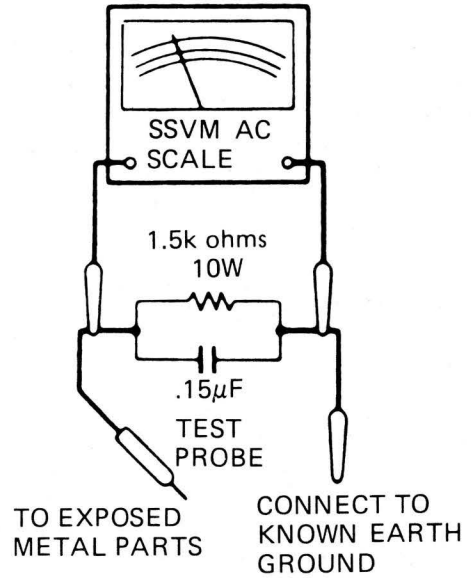

Figure 1. Leakage Current Test Circuit
- Use an SSVM or VOM with 1000 ohms-per-volt or higher sensitivity to measure the AC voltage drop across the resistor. (See Figure 1.)